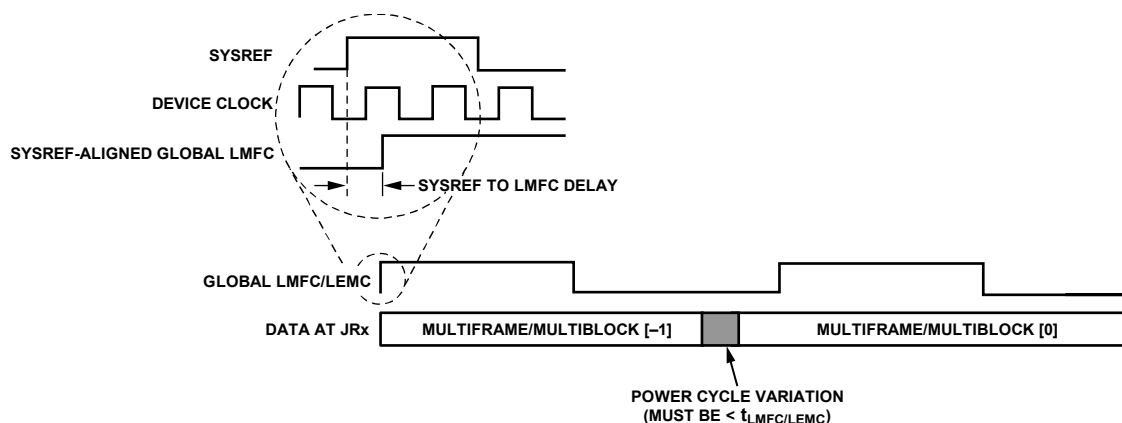

Figure 55. SYSREF and LMFC/LEMC
The JESD204B/C protocol organizes data samples into octets, frames, and multiframe (or multiblocks), as described in the Transport Layer section. The LMFC/LEMC is synchronous with the beginnings of these multiframe/multiblocks. In Subclass 1 operation, the SYSREF signal synchronizes the LMFC/LEMCs for each device in a link or across multiple links. Within the AD9081 and AD9082, the SYSREF signal also synchronizes the internal sample dividers. This synchronization is shown in Figure 55. The JESD204B receiver uses the multiframe boundaries and buffering to achieve consistent latency across lanes (or across multiple devices) and to achieve a fixed latency between power cycles and link reset conditions. Similarly, the JESD204C receiver uses the extended multiblock boundaries and buffering to achieve consistent latency.
- The total latency variation across all lanes, links, and devices must be ≤ 1 LMFC/LEMC period (see Figure 55). This variation includes both variable delays and the variation in fixed delays from lane to lane, link to link, and device to device in the system. For more requirements regarding latency variation related to the device JESD204B/C receiver, see the Deterministic Latency Requirements section.